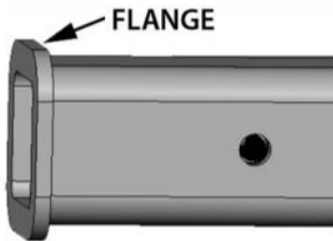

Fig. 32
2. Per Fig 32 please note that this product requires that your hitch has a flange.